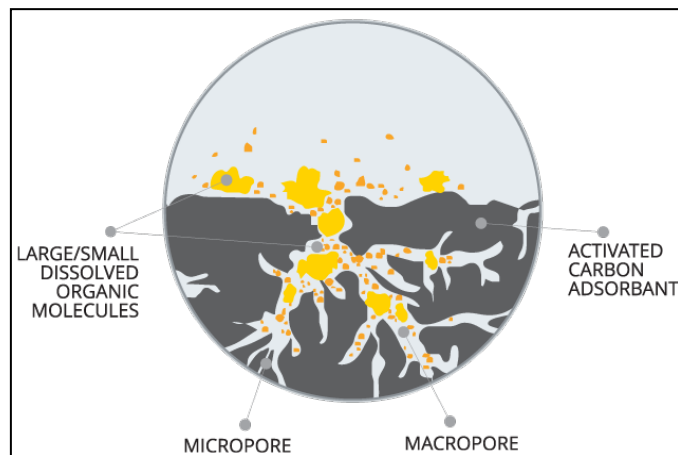

Figure 6. Activated carbon adsorption of organic molecules [14].
Activated carbon (AC) can filter organic compounds and contaminants such as lead, chlorines, herbicides, and pesticides through a process called adsorption, which is one of two primary water filtration techniques. The second technique is called sediment, or mechanical filtration and it removes particles from water based on size; adsorption purification attracts solutes based on the particle composition [13]. Figure 6 illustrates the adsorption process.